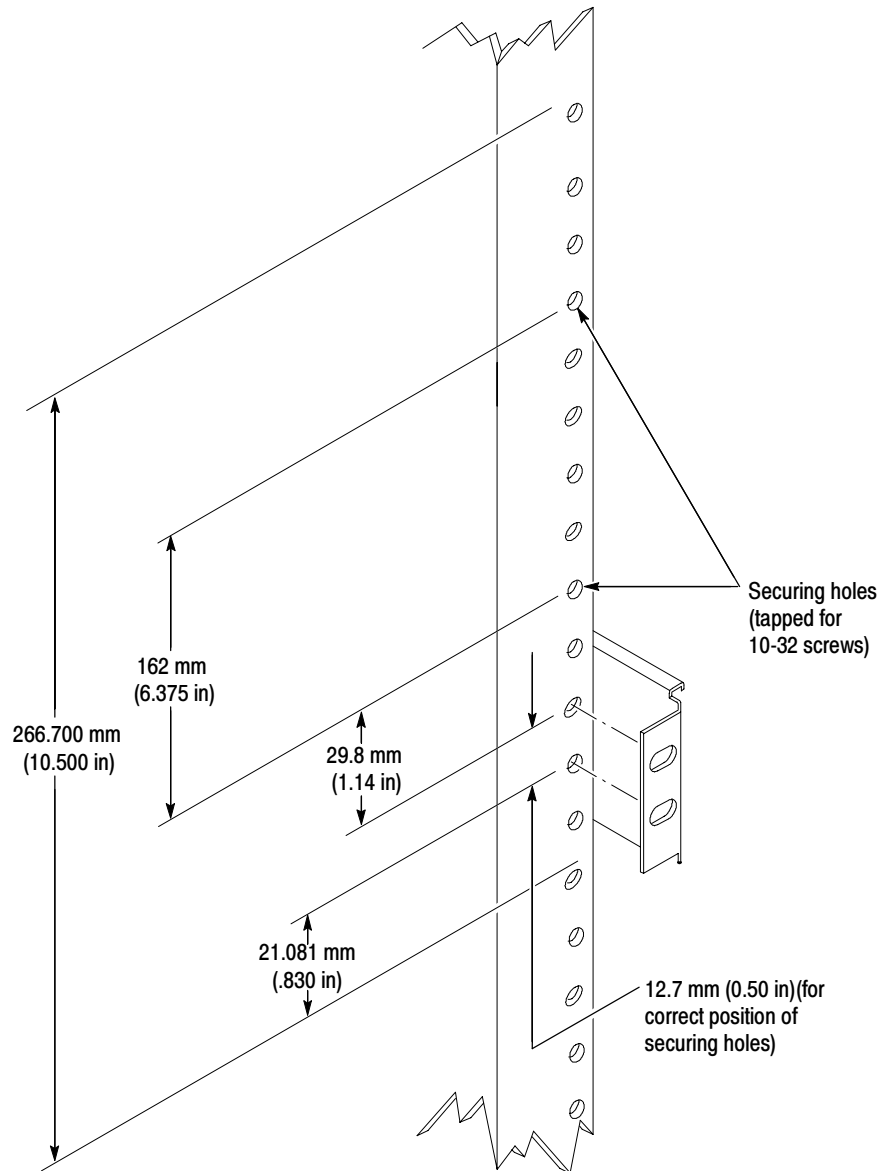

Figure 10: Vertical clearances for rack installation (left-front rail shown)
- a. *Select the mounting position in rack:* Select two 0.5 inch-spaced holes in the front rail. Verify that the 4.36 inch and 10.500 inch clearances exist relative to those mounting holes. See Figure 10 on page 19.